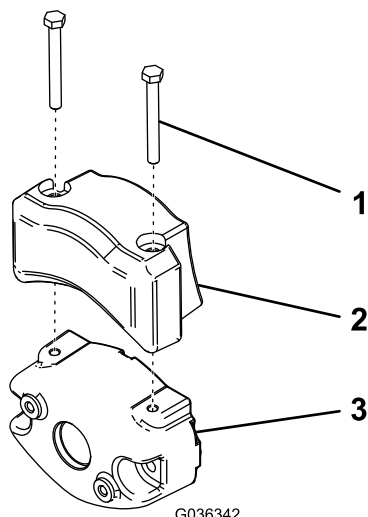

Figure 11
4. Secure the electrical counterweight to the existing counterweight with 2 capscrews as shown in Figure 11.